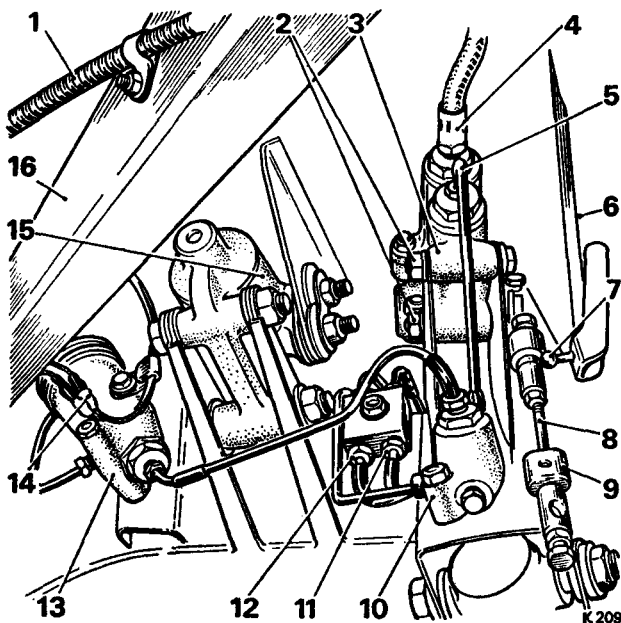

FIG. G21 REAR RIGHT-HAND HEIGHT CONTROL VALVE
2. The two pipes from the front end of the valve are connected into a four-way junction on the rear face of the sub-frame cross-member and must be removed (see Fig. G21). Remove the two unions indicated then remove the two valve mounting bolts and nuts and remove the valve, operating arm and the two pipes from the car.